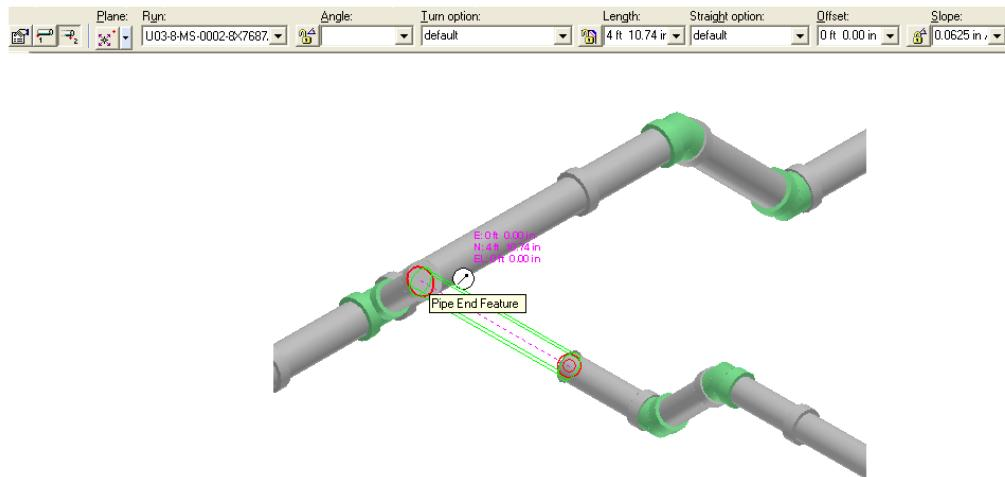

Figure 36: Pipe End Feature
- Locate the **End Feature** on the pipe coming out from the reducing tee, as shown in Figure 36.